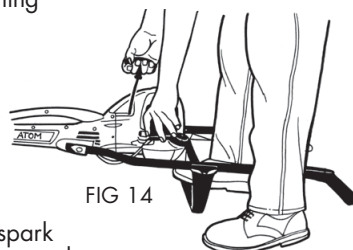

FIG 14
Place edger on ground in horizontal position. See Fig. 14 below.
4. Make sure you have a firm footing. With one foot on cross brace, hold down motor with left hand. With right hand pull the starter grip slowly until you feel it engage – and then give it a FAST pull (Fig. 14).